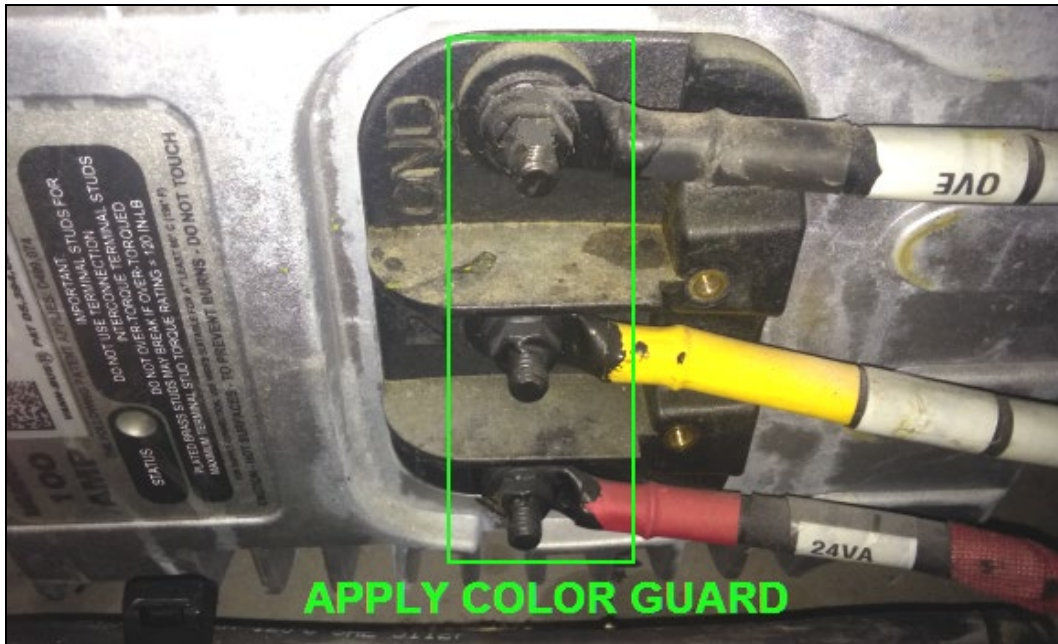

Fig.11 Reconnected power wires and Color Guard application
10. Reconnect the equalizer 12 volt, 24 volt and ground terminals (Fig.11).
11. Apply black Color Guard spray to the three terminal posts and let it dry (Fig.11).